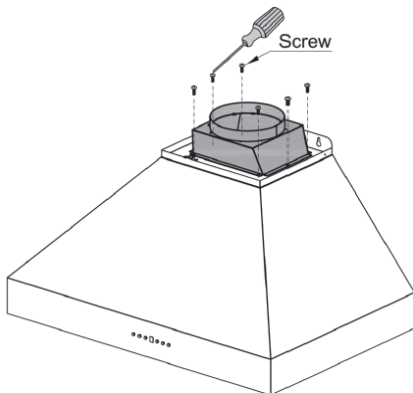

Figure 5.
7. Install the air outlet adapter over the hood with the provided screws ( $\phi$  6" for 30" & 10" for 36", 48" and 60"). *Figure 5.*